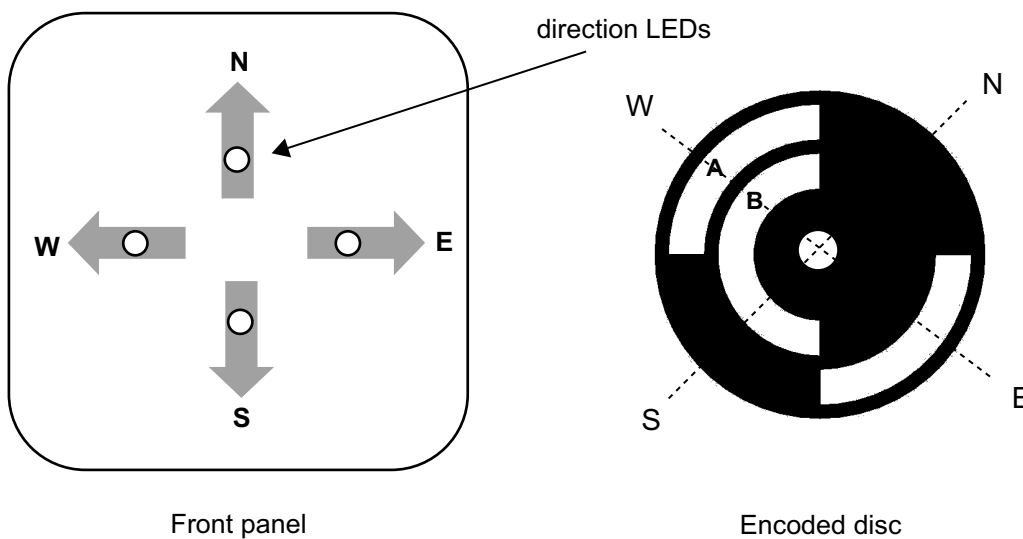

Fig. 6
- (b) The front panel of an electronic weather vane display system is shown in **Fig. 6**. The wind direction LEDs on the front panel shown are to be illuminated by means of a logic circuit. The inputs to the circuit are reflective optical switches of the type shown in **Fig. 5**. The optical switches are labelled A and B and are positioned over an encoded disc which has light and dark coloured areas as shown. The disc itself will be turned by a weather vane and the appropriate direction LEDs will then be illuminated.
- (i) Complete the truth table below showing the logic signals from the sensors for each of the wind directions as the disc in **Fig. 6** rotates in a clockwise direction. Assume that a logic 1 is produced when the optical switch is positioned over a light coloured surface and a logic 0 when positioned above a dark coloured surface.
- (c) The complete logic circuit used to control the four direction LEDs in **Fig. 6** is to be replaced by a PIC based circuit and flowchart. The inputs and outputs for the PIC are labelled as follows:
- (i) Explain **one** main advantage (other than cost) of using a PIC based circuit instead of a logic circuit to control the direction LEDs as shown in **Fig. 6**.
(d) The wind direction system in **Fig. 6** is to be developed in order to provide a wider range of directions. The proposed front panel is shown in **Fig. 7** along with the incomplete encoded disk to allow eight directions to be shown using three reflective optoswitches A, B, and additional switch C. The encoded disk utilises Gray Code.